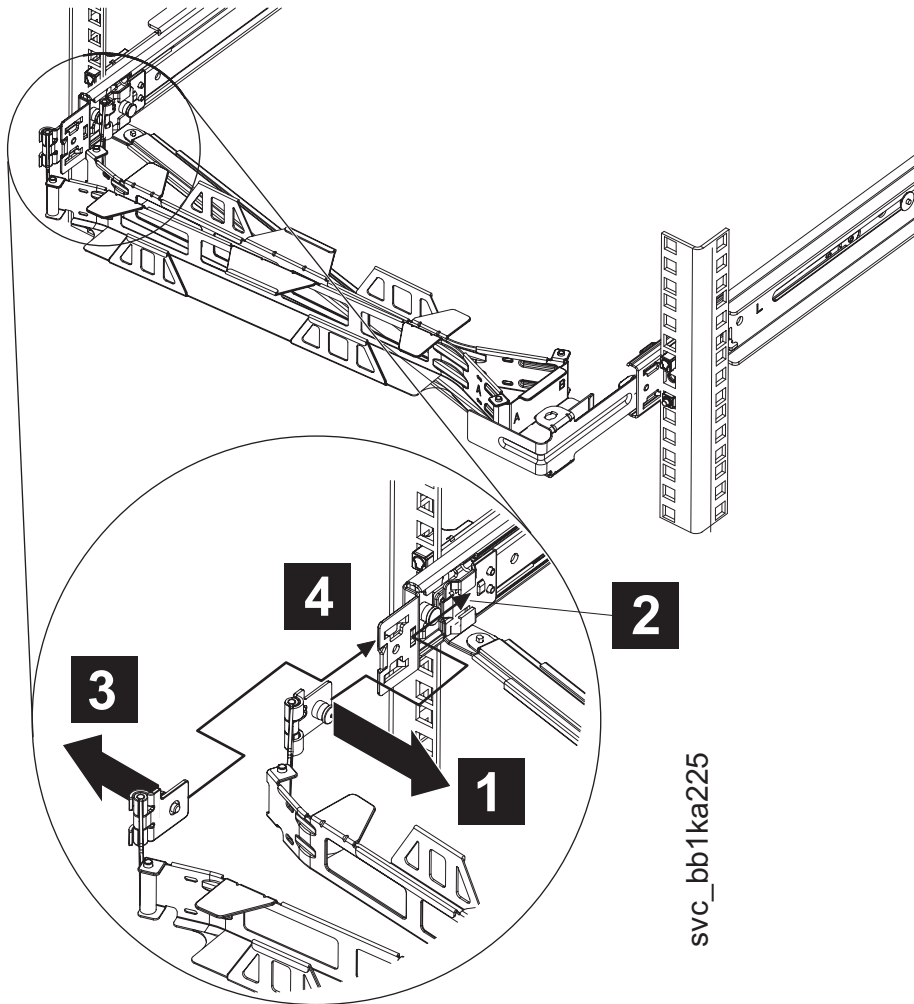

Figure 20. SAN Volume Controller 2145-CF8 cable-management arm on the support arm
- a. Pull out the cable-management arm pin, as shown by **1** in Figure 20 on page 28, then slide the cable-management arm tab **2** into the slot on the inside of the slide rail.